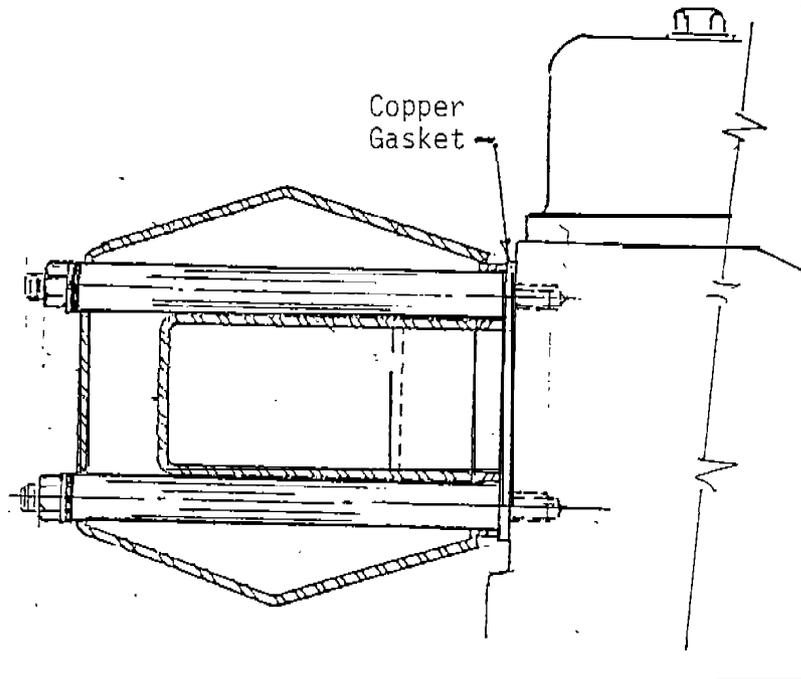

Figure 7. Water-Cooled Exhaust Manifold
- (WEEKLY) 11. ( ) The nuts and lockwashers securing the exhaust manifold to the engine are in place and tight as shown in Figure 7.
- (WEEKLY) 12. ( ) A copper gasket - in two pieces - is installed between the exhaust manifold and the engine head, as shown in Figure 7.